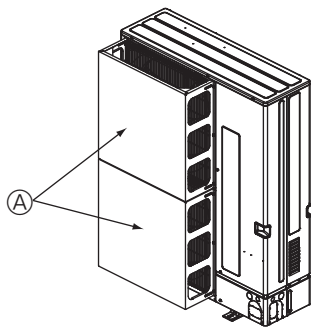

Fig. 2-16
- ① Install an optional air guide if the unit is installed in a location where strong winds from a typhoon, etc. may directly enter the air outlet. (Fig. 2-16)